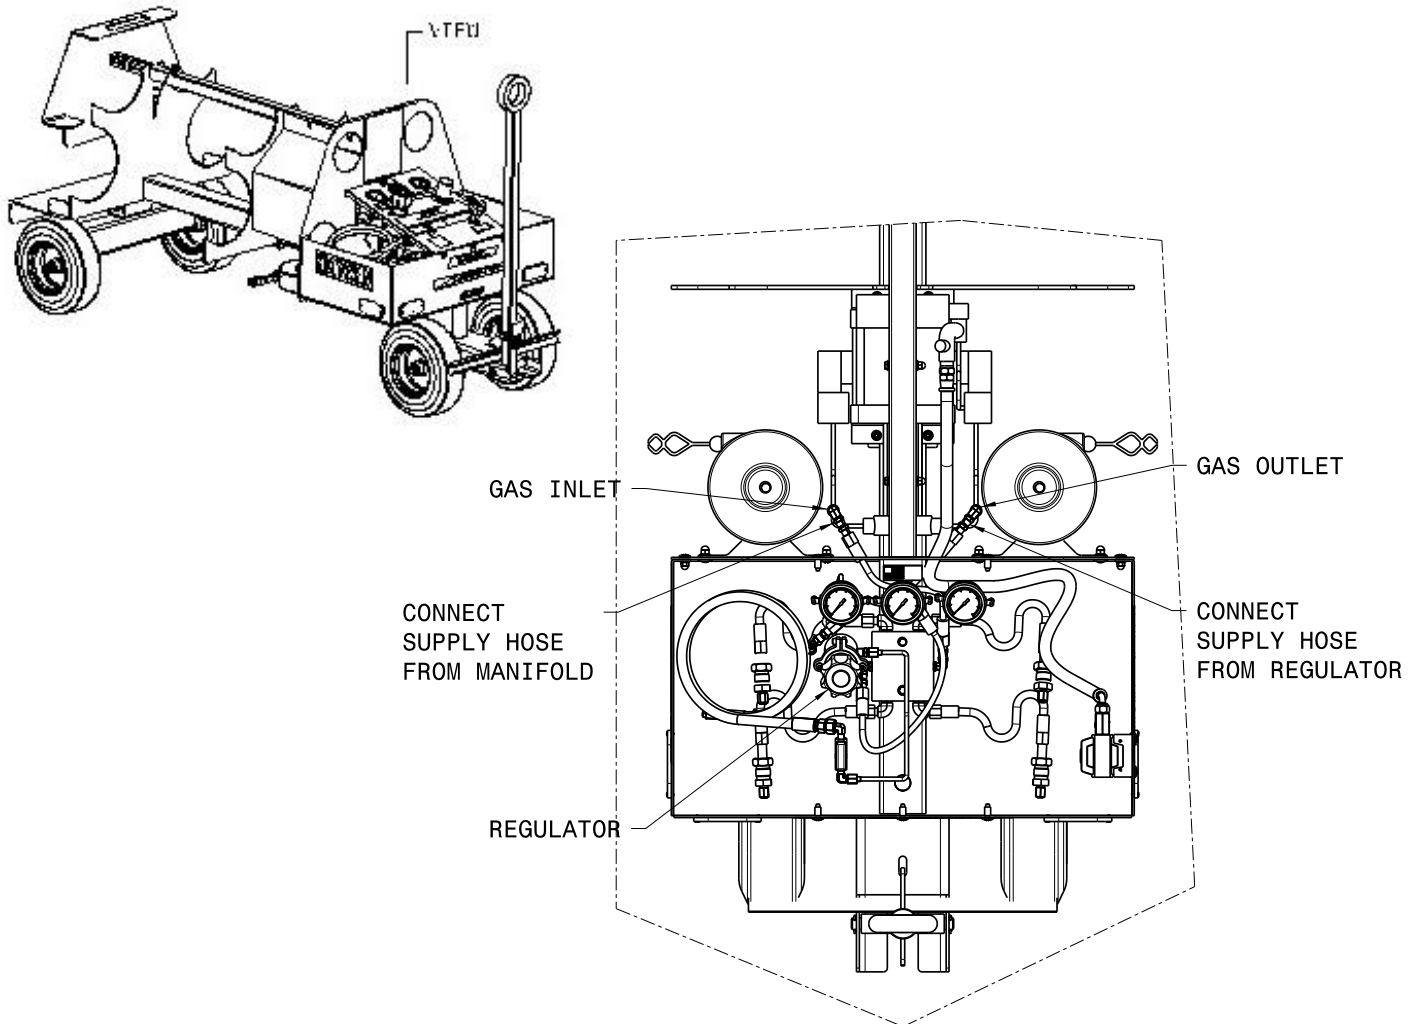

FIGURE 2 – 4 Bottle Cart Instrument Panel
2. Install 12 inch oxygen supply hose from regulator assembly to gas outlet on Oxygen Booster per SAE spec. ARP 1532, being careful not to contaminate the system during installation. (See **Figure 2**).
3. Install 12 inch oxygen supply hose from manifold assembly to gas inlet on Oxygen Booster per SAE specification ARP 1532, being careful not to contaminate the system during installation (See **Figure 2**).
5. Rotate the oxygen supply bottles so that the manifold inlet hoses may be easily connected to the bottles. Tighten bottle hoses 2 to 2½ turns after finger tight is reached. Make sure the hoses are not kinked or damaged. Recheck all fittings for tightness. (See **Figure 2**).